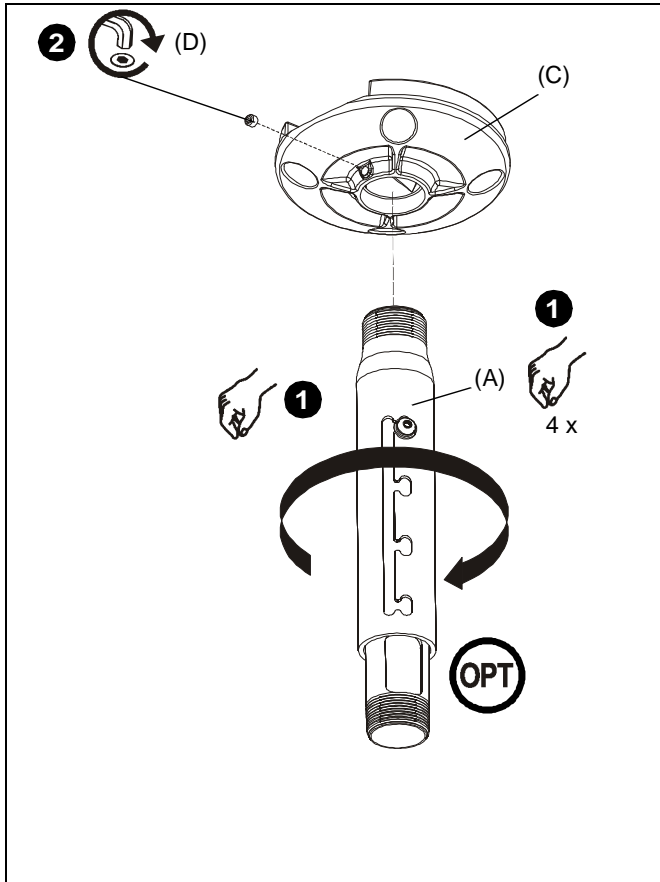

Figure 4
1. Install adjustable column (A) into plate. (See Figure 4)
2. Secure column (A) by tightening set screw (D) in plate using 3/16" hex key (B). (See Figure 4)